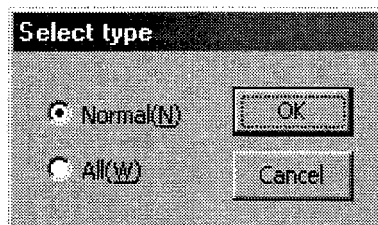

Figure 7.44 “Select type” dialog box
Click “Upload (U)” in the “Index Comp” menu to display the “Select type” dialog box (see Figure 7.44).